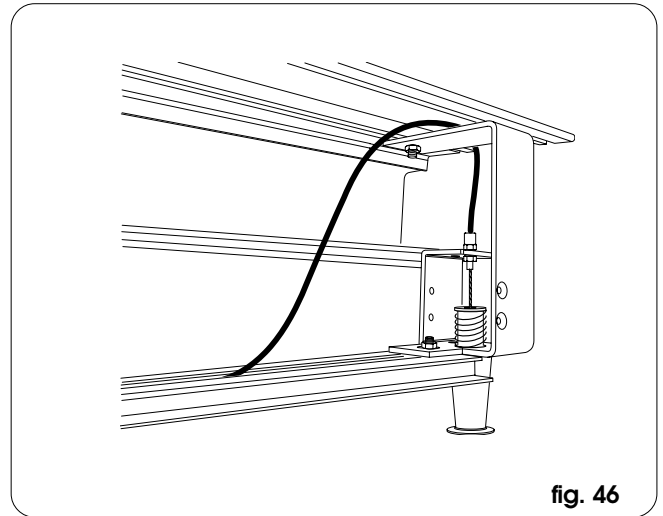

fig. 46
- Apply tension to the steel wire until the clamp meets the stop inside the knob (fig. 46).